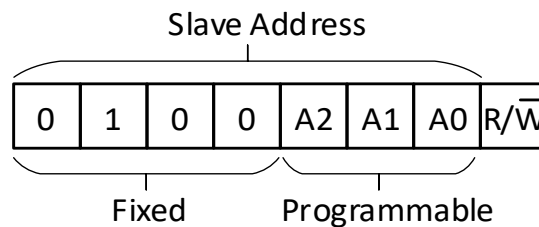

Figure 7-7. NCA9555B device address
Figure 7-7 shows the address byte of the NCA9555B. The last bit of the target address defines the operation (read or write) to be performed. A HIGH (1) selects a read operation, while a LOW (0) selects a write operation.
Data is transmitted to the NCA9555B by sending the device address and setting the least significant bit to a logic 0 (see Figure 7-7). The command byte is sent after the address and determines which register will receive the data following the command byte.
In order to read data from the NCA9555B, the bus master must first send the NCA9555B address with the least significant bit set to a logic 0 (see Figure 7-7). The command byte is sent after the address and determines which register will be accessed. After a restart, the device address is sent again, but this time the least significant bit is set to a logic 1. Data from the register defined by the command byte will then be sent by the NCA9555B (see Figure 7-11, Figure 7-12 and Figure 7-13). Data is clocked into the register on the rising edge of the acknowledge clock pulse. After the first byte is read, additional bytes may be read but the data will now reflect the information in the other register in the pair. For example, if Input Port 1 is read, then the next byte read would be Input Port 0. There is no limitation on the number of data bytes received in one read transmission, but the final byte received, the bus master must not acknowledge the data.